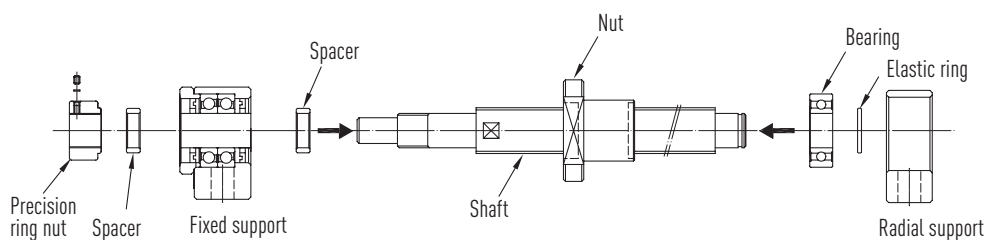

Fig. 10.7 Exploded view of ballscrew with bearing supports
- ▶ Using the elastic ring, secure the supported bearing to the shaft (refer to Fig. 10.7).